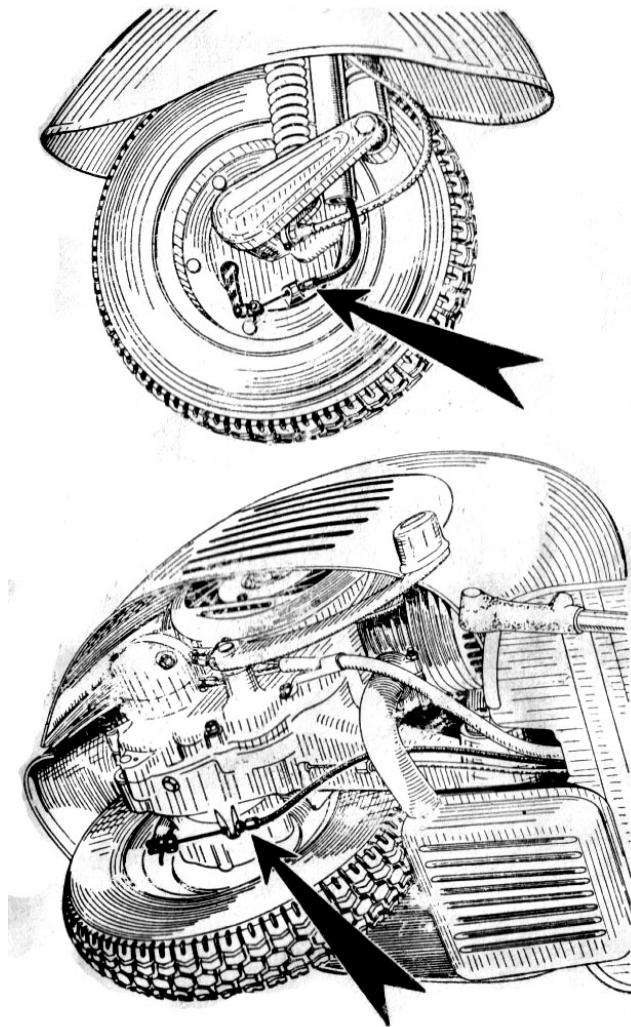

Fig. 18 – Brake adjustment
- the braking action starts as soon as controls are operated. These conditions are obtained adjusting the cables by means of screws indicated with an arrow in Fig. 18.